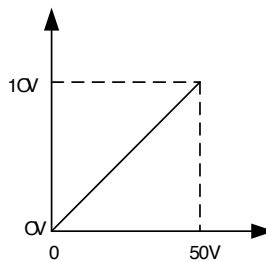

Figure 5-9 Corresponding relation of given voltage at manual mode (Fanuc)
3. Corresponding relation of given voltage at manual mode is shown in Figure 5-9.